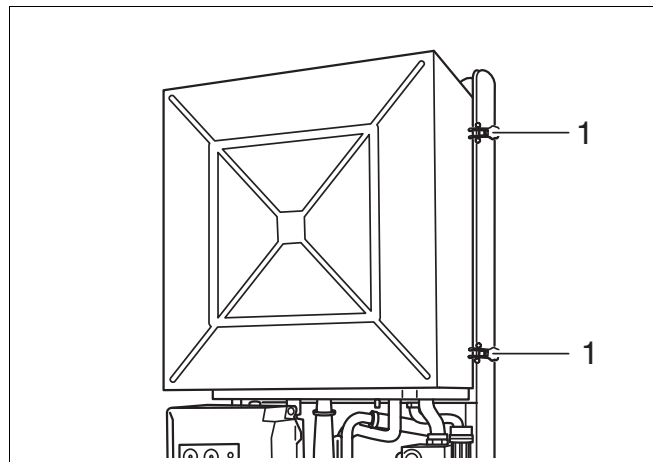

Fig. 89 Open snap locks
- Open snap locks (fig. 89, item 1) and remove combustion chamber cover.